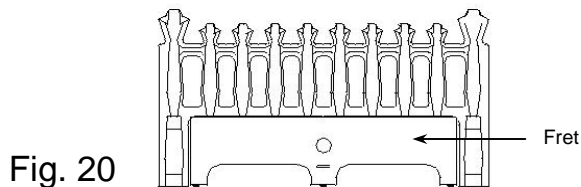

Fig. 20
1. Remove the fret (Fig. 20), to gain access to the controls (Fig. 21).